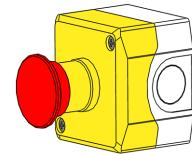

Figure 17 - Emergency Stop Switch
10. Press one of the Tray-mounted side Emergency Stops or the funnel mounted top Emergency Stops (Figure 17). The switch chosen should be varied each time the machine is used.